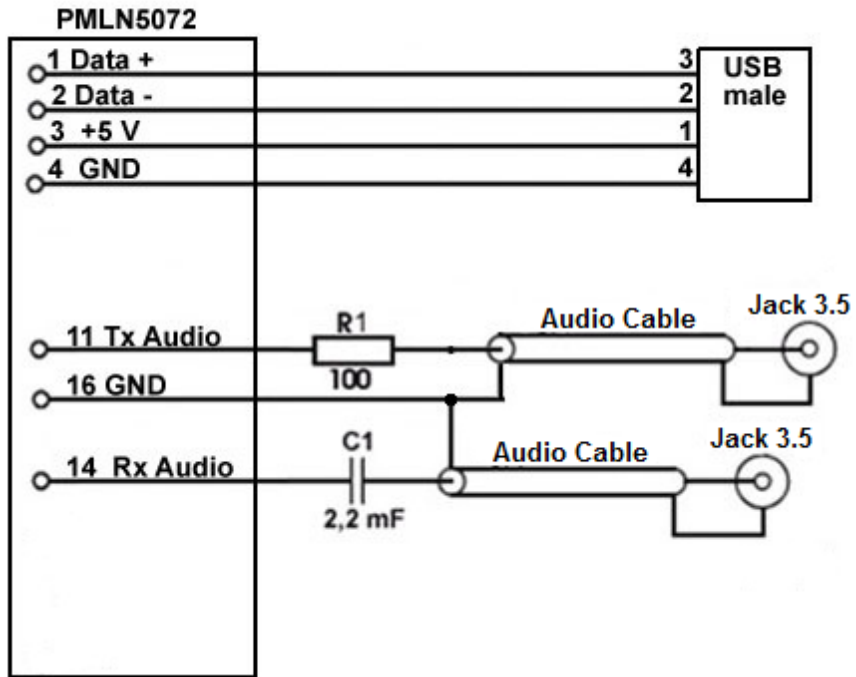

Figure 7 – Radio Cable Wiring Diagram
7. Fix the cable in PMLN5072 Rear Accessory Connector as in Figure 7:
19. Connect the cable to PMLN5072 Rear Accessory Connector as in Figure 7 with respect to the wiring between USB and PMLN5072 connectors.